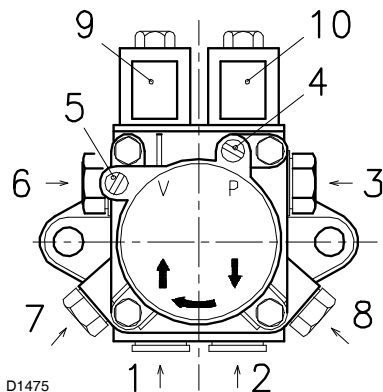

Fig. 18
Legend (Fig. 18)
- In order for self-priming to take place, one of the screws 4)-8)(Fig. 18) of the pump must be loosened in order to bleed off the air contained in the suction line.
In order to adjust 1st stage pressure, use the screw 6)(Fig. 18).
In order to adjust 2nd stage pressure, use the screw 7)(Fig. 18).